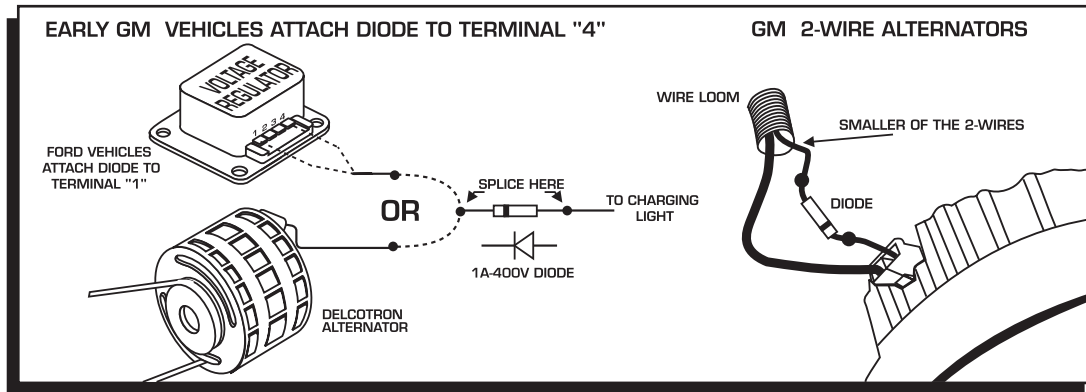

Figure 7 Installing the Diode to fix Run-on
**Early Ford and GM:** To solve the Run-On problem, a Diode is supplied in the parts bag. By installing this Diode in-line of the wire that goes to the Charging indicator, the voltage is kept from entering the CDI. Figure 7 shows the proper installation for early Ford and GM vehicles.
**Note:** Diodes are used to allow voltage to flow only one way. Make sure the Diode is installed facing the proper direction (as shown in Figure 7).
GM Delcotron Alternators use an internal voltage regulator. Install the Diode in-line on the smallest wire exiting the alternator (Figure 7). It is usually a Brown wire.